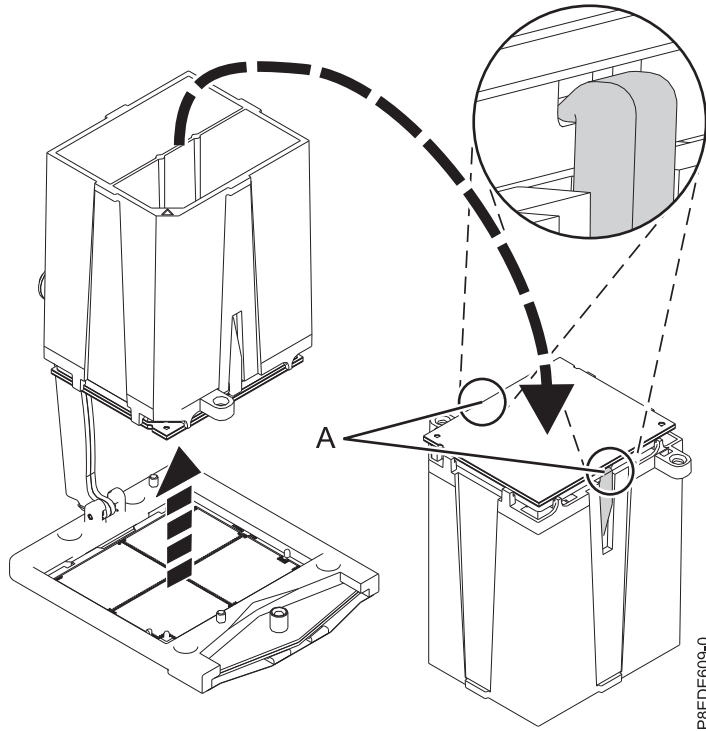

Figure 16. Ensuring that the system processor module is securely locked in tool
- d. Grasp the sides of the tool and system processor module and carefully lift it slightly out of the original system backplane. Then, turn it over so that the system processor module side is up. Ensure that both tool jaws (A) are firmly grabbing the system processor module, as shown in Figure 16 on page 18.